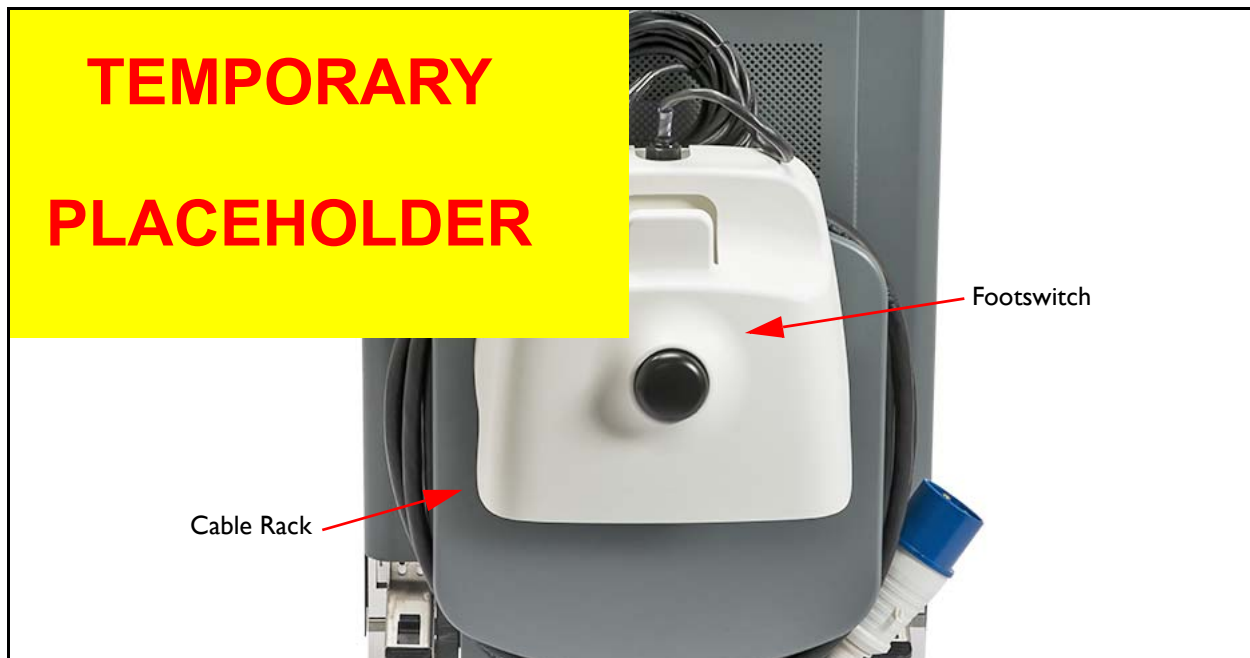

Figure 32: Laser Console Cable Rack and Footswitch Storage Mounts
7. Remove the main power plug from the wall receptacle and wrap the power cable around the cable rack (see Figure 32).
8. Remove the footswitch connector from the laser system. and hang it from the footswitch storage mounts, if the system is going to be moved (see Figure 32).